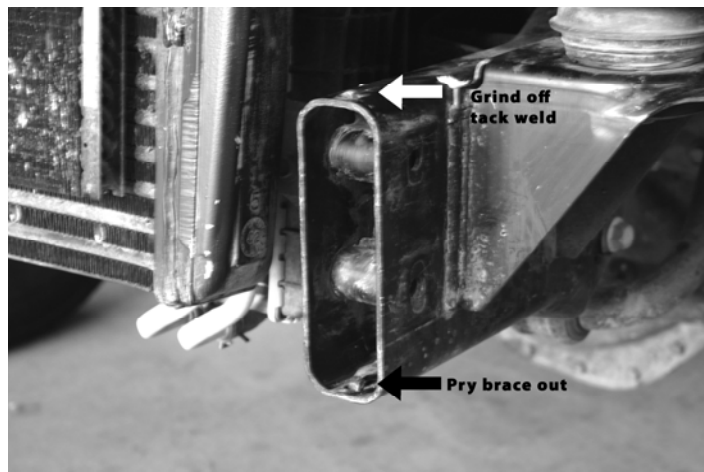

Figure 3
- ❑ **H)** Use a pry bar to remove the OEM internal frame crush brace from the frame rail (Figure 3).